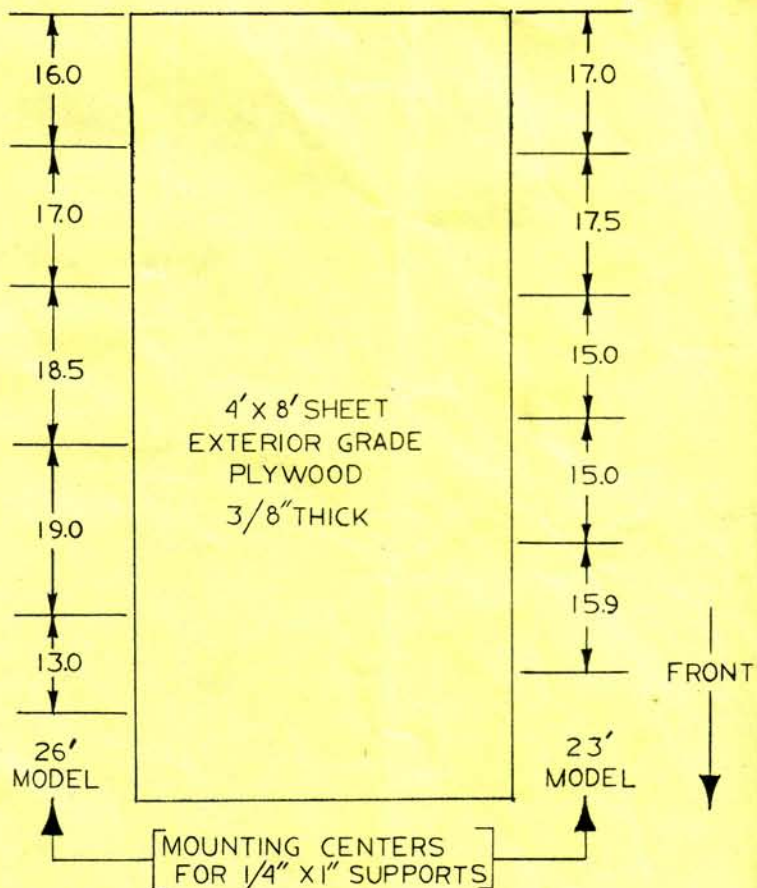

Figure 2
15. To prevent piercing or otherwise damaging the roof, install a 4'x8' sheet of exterior grade plywood (procure locally). Cut seven pieces of 1/4"x1" wood, four feet long. Glue one piece on the bottom side of the plywood panel at each end. Glue the remaining five pieces on the bottom side of the panel using the dimensions shown in Figure 2. The dimensions on the left hand side are for the 26 foot model and the dimensions on the right hand side are for the 23 foot model.